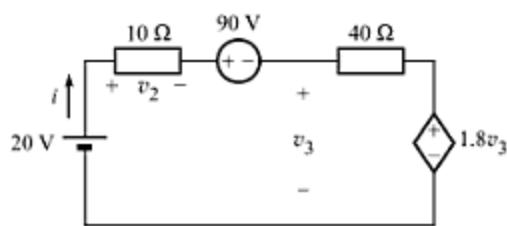

Fig. A-96
- A-60. Find  $i_1$  in the circuit of Fig. A-96.